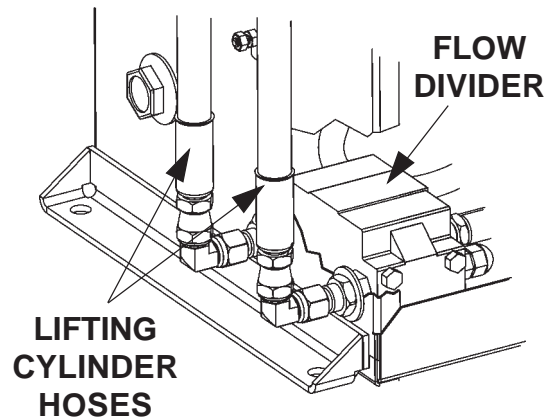

FIG. 5A
1. Reverse the two 3/8" high pressure hose connections on output side of Flow Divider as shown in **FIG. 5A**. Raise the Platform. If the uneven Platform position is the opposite of original symptom, replace Flow Divider.